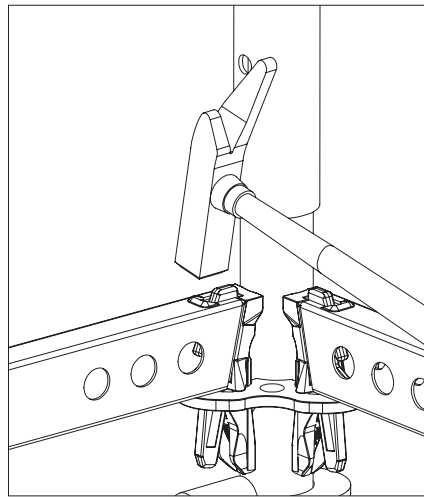

Fig. A3.04c
3. Secure the wedges with a jarring blow using a 500 g hammer. (Fig. A3.04c)